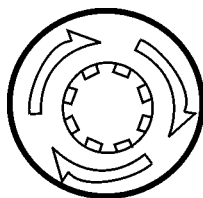

**Figure 71. Ignition Key Switch (STOP position)**
4. Place the ignition key (Figure 71) in the "STOP" position.